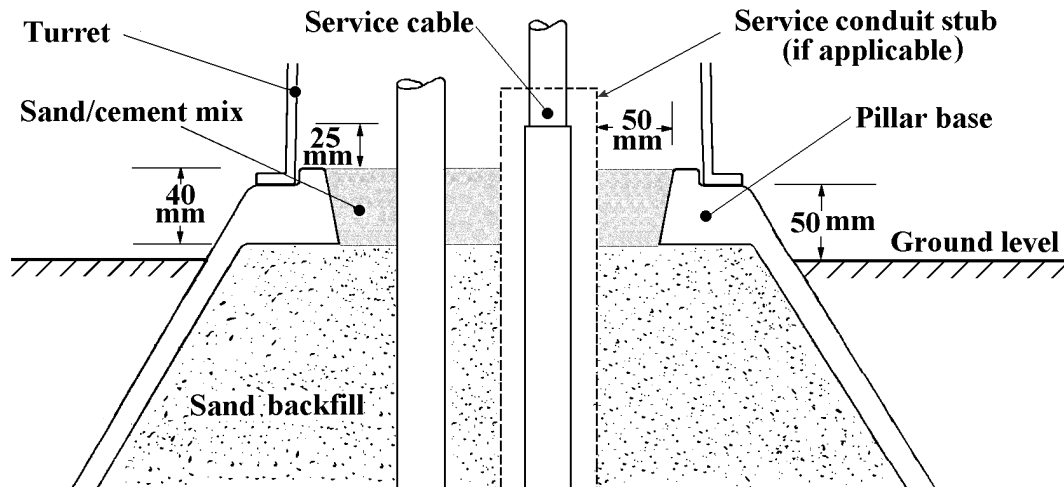

Figure 14 – Pillar Base Details
- 5) Refer to Figure 14 for service conduit stub details (if applicable).
13) A conduit stub shall be installed in accordance with Figure 14 for each cable that has not been initially laid prior to the installation of the pillar noting the following: